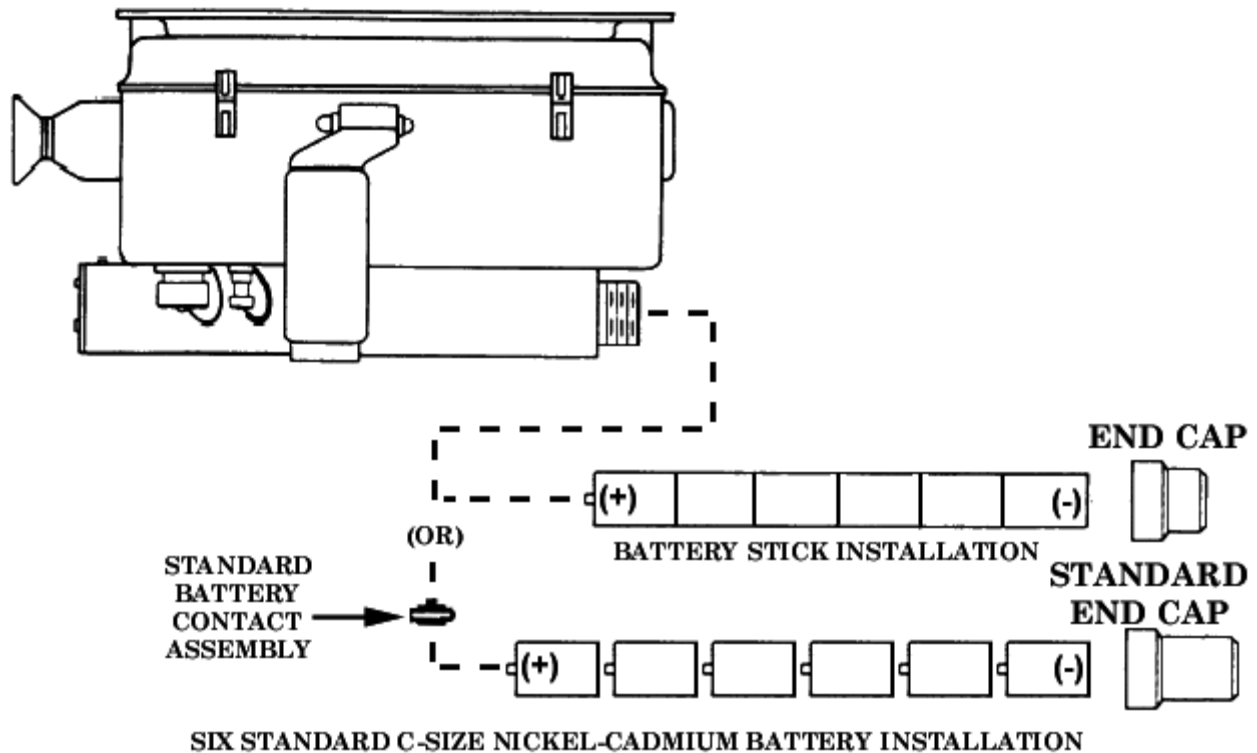

Figure 1. Battery installation.
a. Install a fully charged battery stick into TI (fig. 1).